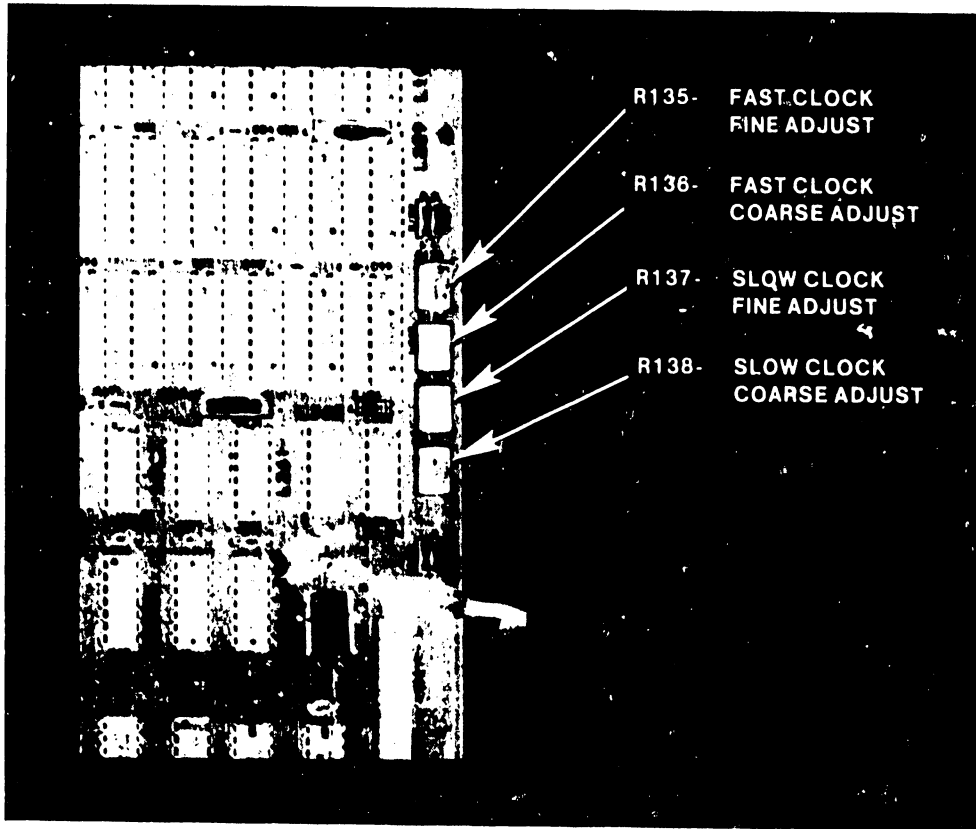
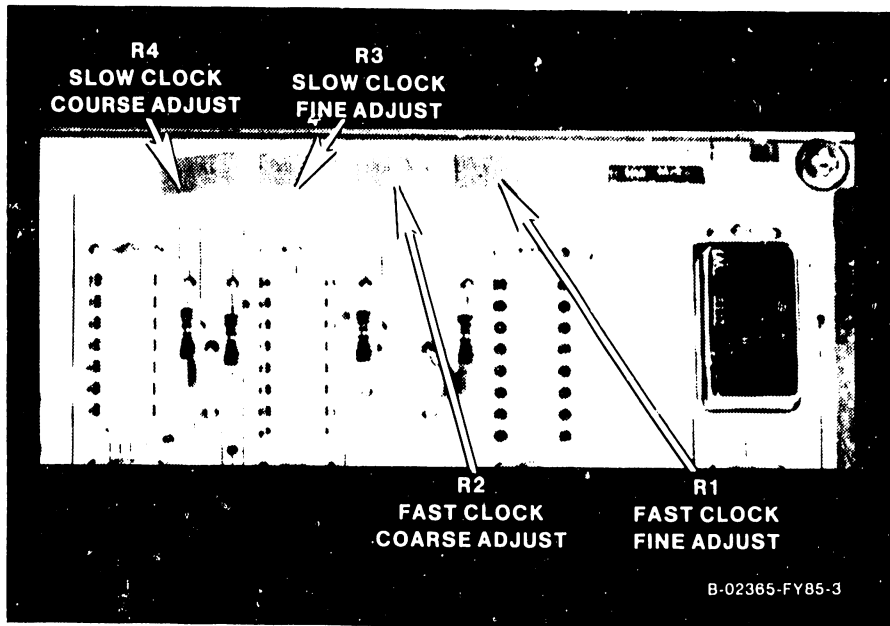

Figure 8-3A. 210-7602 VS-85 Diagnostic Clock Adjustment Pots
Figure 8-3B. 210-8204-A VS-85-H Diagnostic Clock Adjustment Pots
6. For the VS-85, adjust R138 (slow clock coarse adjustment) and R137 (slow clock fine adjustment) on the 210-7602 Control Memory board (figure 8-3A) until the leading edge-to-leading edge time of the slow clock pulse is 176 nanoseconds. For the VS-85-H, adjust R4 (slow clock coarse) and R3 (slow clock fine) on the 210-8204-A Control Memory board (figure 8-3B).